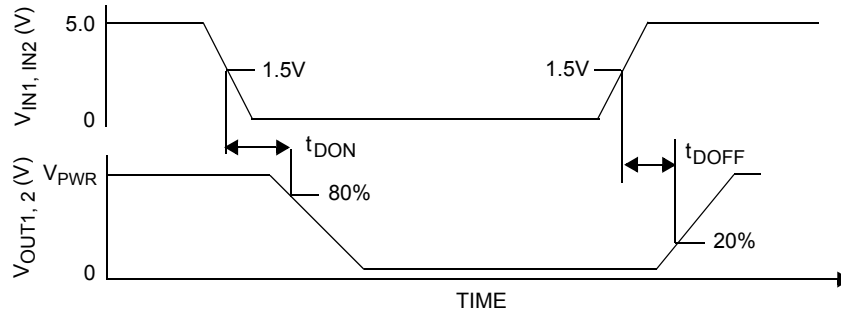

Figure 4. Output Delay Time
- Output Delay is the time duration from 1.5V on the IN1 or IN2 input signal to the 20% or 80% point (dependent on the transition direction) of the OUT1 or OUT2 signal. If the output is transitioning HIGH-to-LOW, the delay is from 1.5V on the input signal to the 80% point of the output response signal. If the output is transitioning LOW-to-HIGH, the delay is from 1.5V on the input signal to the 20% point of the output response signal. See Figure 4, page 10.